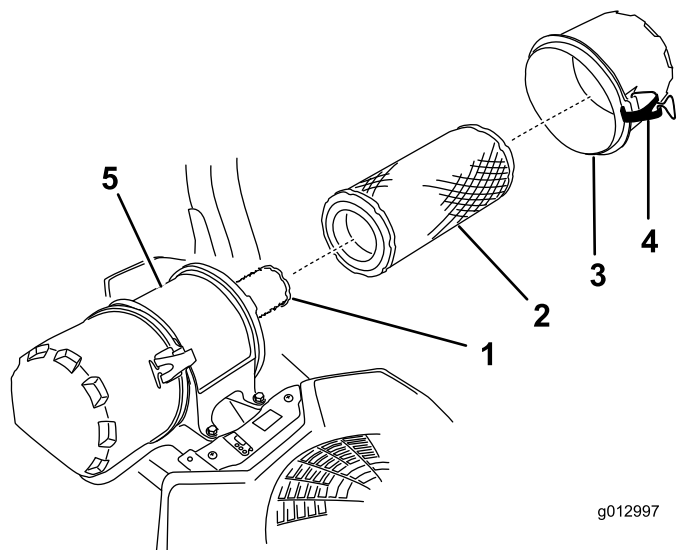

Figure 53
6. Release the latches on the air cleaner and pull the air-cleaner cover off the air-cleaner body (Figure 53).
8. Gently slide the primary filter out of the air-cleaner body (Figure 53).
- If you are replacing the safety filter, carefully slide it into the filter body (Figure 53).
- Carefully slide the primary filter over the safety filter (Figure 53).
- Install the air-cleaner cover and secure the latches (Figure 53).